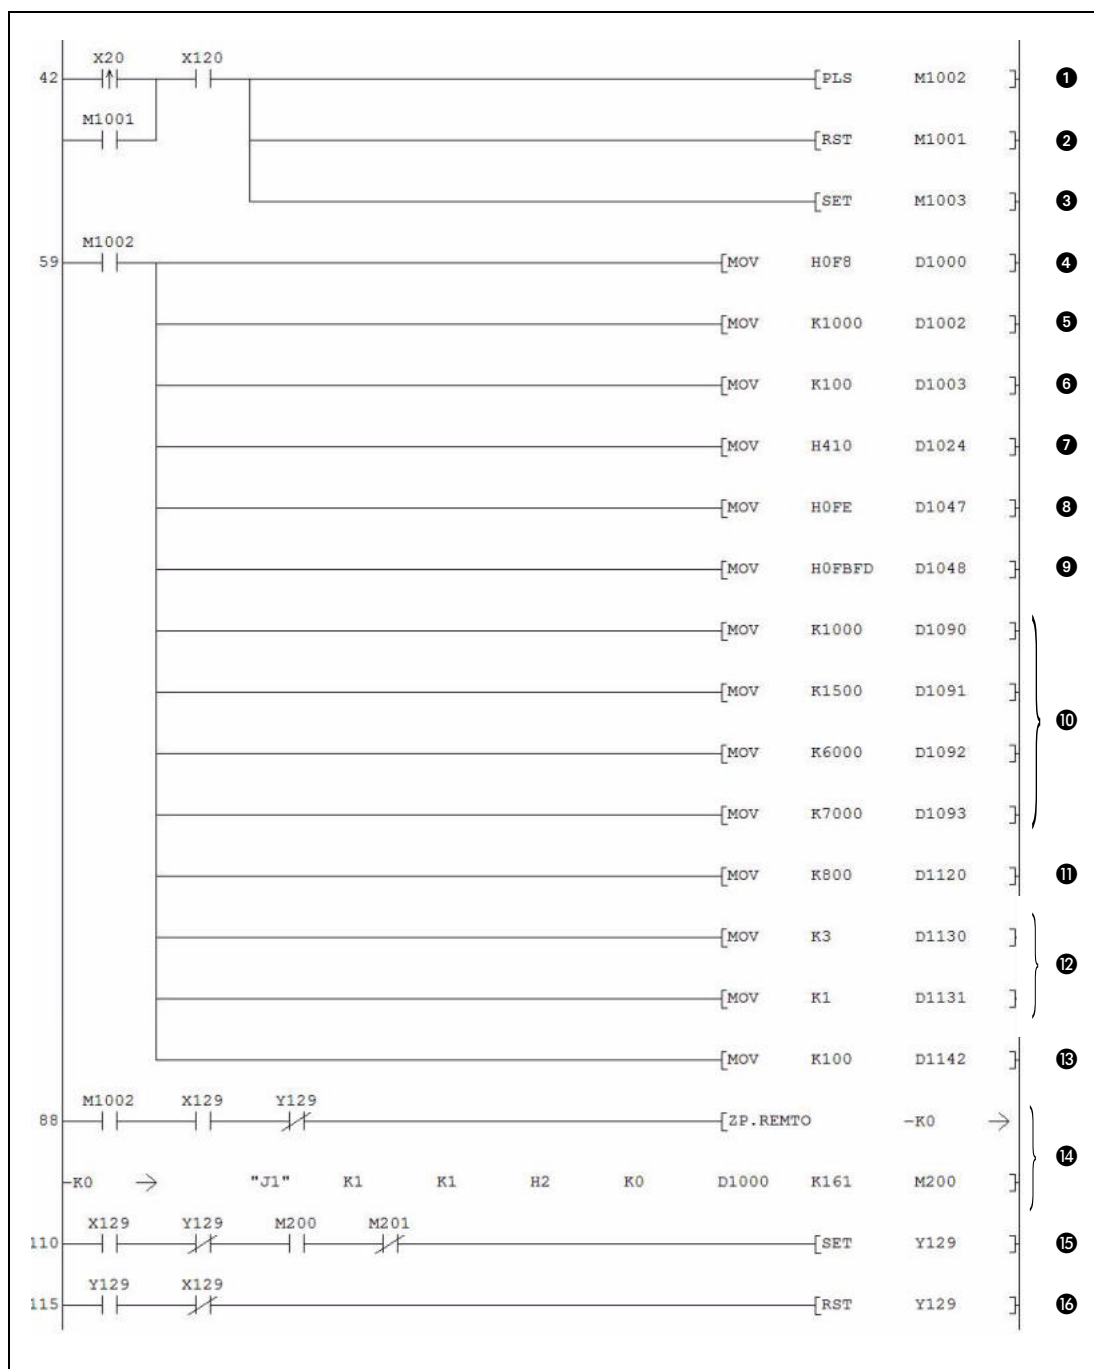
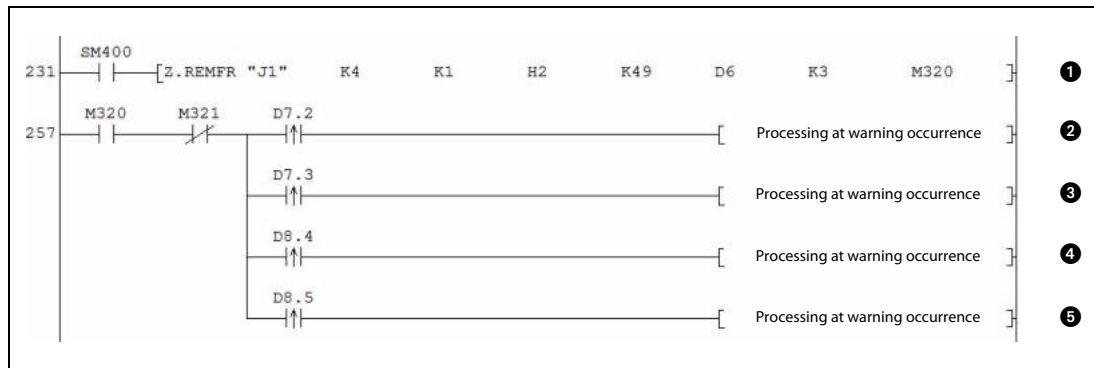

Fig. 6-13: Initial settings performed by the sequence program
Fig. 6-16: For each warning separate instructions are executed
①	Processing for an input signal error at CH1. (The status of the input signal error flags has been read concurrently with the warnings (refer to fig. 6-16))
②	When an input error has been detected and the reset signal (X21) is ON, the error clear request (Y12F) is set.
③	In case of an error the error code is read and stored in D9. Then the error code is output in BCD.
④	The error clear request (Y12F) is set.
⑤	When there is no error indicated, the error clear request (Y12F) is turned OFF.
⑥	The HART field device status is read and stored in internal relays (SM400 is always ON).	Status of device connected to CH1
⑦		Status of device connected to CH2
⑧		Status of device connected to CH3
⑨	Processing when a malfunction of a HART field device is detected.	Device malfunction at CH1
⑩		Device malfunction at CH2
⑪		Device malfunction at CH3
⑫	Master control reset (Only when the input condition for the MC instruction (fig. 6-13) is set, the instructions between the MC and the MCR instruction are executed.)